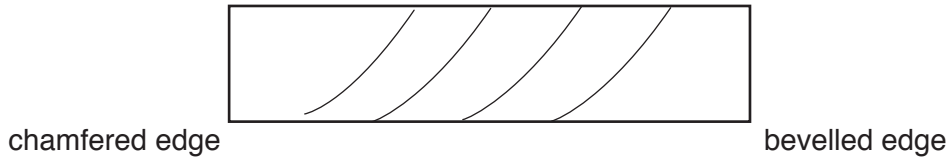

Fig. 3
- 6 Fig. 3 shows the end of a length of wood.
Draw on Fig. 3 to show a chamfered edge and a bevelled edge.